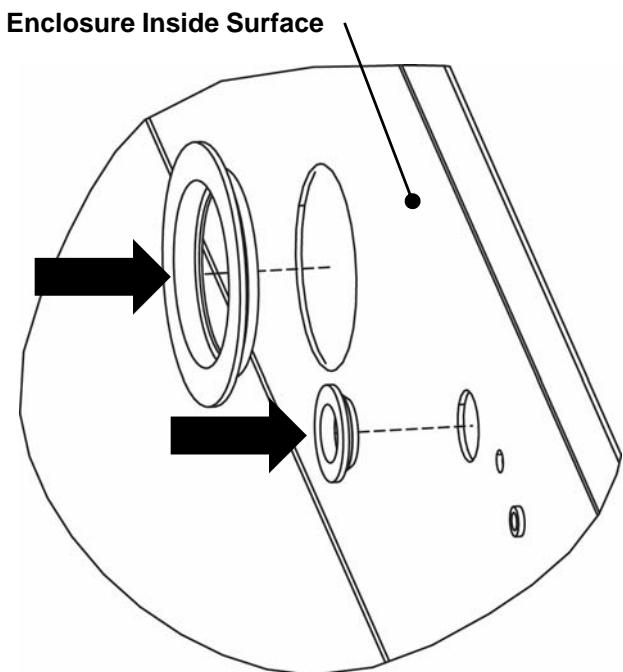

Fig. 10
9. For Type 3R, 12 & 4X enclosures, place the new handle grommet and interlock grommet onto the enclosure as shown in Fig 10. When properly seated, the enclosure sidewall will be captivated within the groove in the grommet.